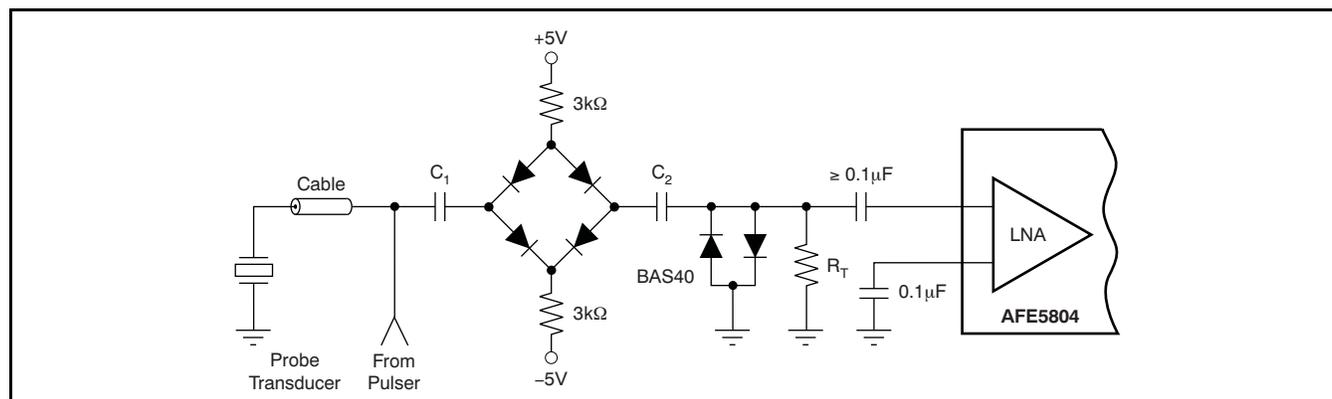

Figure 100. Typical Input Overload Protection Circuit of an Ultrasound System
The AFE5804 is designed in particular for ultrasound applications where the front-end device is required to recover very quickly from an overload condition. Such an overload can either be the result of a transmit pulse feed-through or a strong echo, which can cause overload of the LNA, PGA, and ADC. As discussed earlier, the LNA inputs are internally protected by a pair of back-to-back diodes to prevent severe overload of the LNA. Figure 100 illustrates an ultrasound receive channel front-end that includes typical external overload protection elements. Here, four high-voltage switching diodes are configured in a bridge configuration and form the transmit/receive (T/R) switch. During the transmit period, high voltage pulses from the pulser are applied to the transducer elements and the T/R switch isolates the sensitive LNA input from being damaged by the high voltage signal. However, it is common that fast transients up to several volts leak through the T/R switch and potentially overload the receiver. Therefore, an additional pair of clamping diodes is placed between the T/R switch and the LNA input. In order to clamp the over-voltage to small levels, Schottky diodes (such as the BAS40 series by Infineon®) are commonly used. For example, clamping to levels of $\pm 0.3V$ can significantly reduce the overall overload recovery performance. The T/R switch characteristics
As Figure 100 shows, the front-end circuitry should be capacitively coupled to the LNA signal input (IN). This coupling ensures that the LNA input bias voltage of $+2.4V$ is maintained and decoupled from any other biasing voltage before the LNA.
Within the the AFE5804, overload can occur in either the LNA or the PGA. LNA overload can occur as the result of T/R switch feed-through; and the PGA can be driven into an overload condition by a strong echo in the near-field while the signal gain is high. In any case, the AFE5804 is optimized for very short recovery times, as shown in Figure 100.